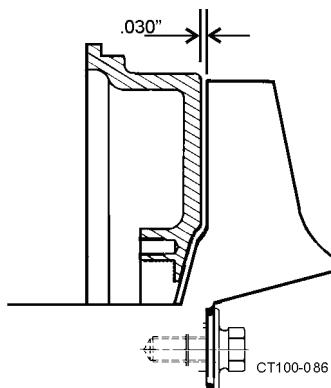

Figure 42 - Place Shims Between Impeller and Backplate
6. Temporarily put 0.03" shims between the impeller vane and back plate to preset clearance. **Be sure to remove shims before final assembly.** See Figure 42.